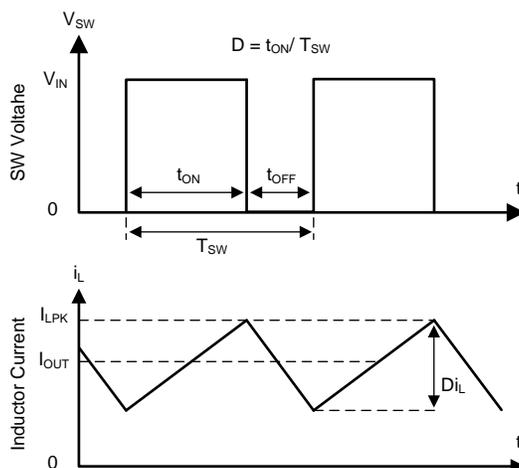

图 13. SW Node and Inductor Current Waveforms in Continuous Conduction Mode (CCM)
The following operation description of the TPS560430 will refer to the Functional Block Diagram and to the waveforms in 图 13. TPS560430 is a step-down synchronous buck regulator with integrated high-side (HS) and low-side (LS) switches (synchronous rectifier). The TPS560430 supplies a regulated output voltage by turning on the HS and LS NMOS switches with controlled duty cycle. During high-side switch ON time, the SW pin voltage swings up to approximately  $V_{IN}$ , and the inductor current  $i_L$  increase with linear slope  $(V_{IN} - V_{OUT}) / L$ . When the HS switch is turned off by the control logic, the LS switch is turned on after an anti-shoot-through dead time. Inductor current discharges through the low-side switch with a slope of  $-V_{OUT} / L$ . The control parameter of a buck converter is defined as Duty Cycle  $D = t_{ON} / T_{SW}$ , where  $t_{ON}$  is the high-side switch ON time and  $T_{SW}$  is the switching period. The regulator control loop maintains a constant output voltage by adjusting the duty cycle  $D$ . In an idea Buck converter, where losses are ignored,  $D$  is proportional to the output voltage and inversely proportional to the input voltage:  $D = V_{OUT} / V_{IN}$ .